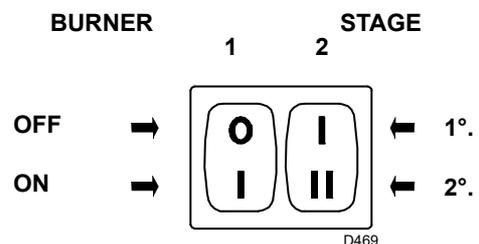
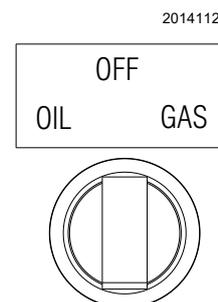

Fig. 33
Fig. 34
Keep the burner operating at 1st stage by setting the switch 2)(Fig. 33) to the 1st stage position. The fan damper can be adjusted by operating the orange level of the servomotor ("Servomotor adjustment" on page 33).
Turn switch 2) (Fig. 33) to the 2nd stage position. The fan damper can be adjusted by operating the red level of the servomotor .("Servomotor adjustment" on page 33).
Start the burner by closing the remote controls, with the switch 1)(Fig. 33) in the "ON" position and with the fuel selector switch set to "OIL" (Fig. 34).
The pump can be considered to be primed when the light oil starts coming out of the screw 3)(Fig. 23 on page 24). Stop the burner: set switch 1)(Fig. 33) to "OFF" and tighten the screw 3).
- switch 1)(Fig. 33 on page 30) in "**BURNER ON**" position;
- switch 2)(Fig. 33 on page 30) in "**1st STAGE**" position;
Turn switch 2)(Fig. 33) to the 2nd stage position: the servomotor will open the air damper on the value previously set for the light oil and will control the opening of the 2nd stage VR2 gas valve.
Turn switch 2)(Fig. 33) to the 1st stage position: the servomotor will close the air damper on the value previously set for the light oil and will control the opening of the 1st stage VR1 gas valve.